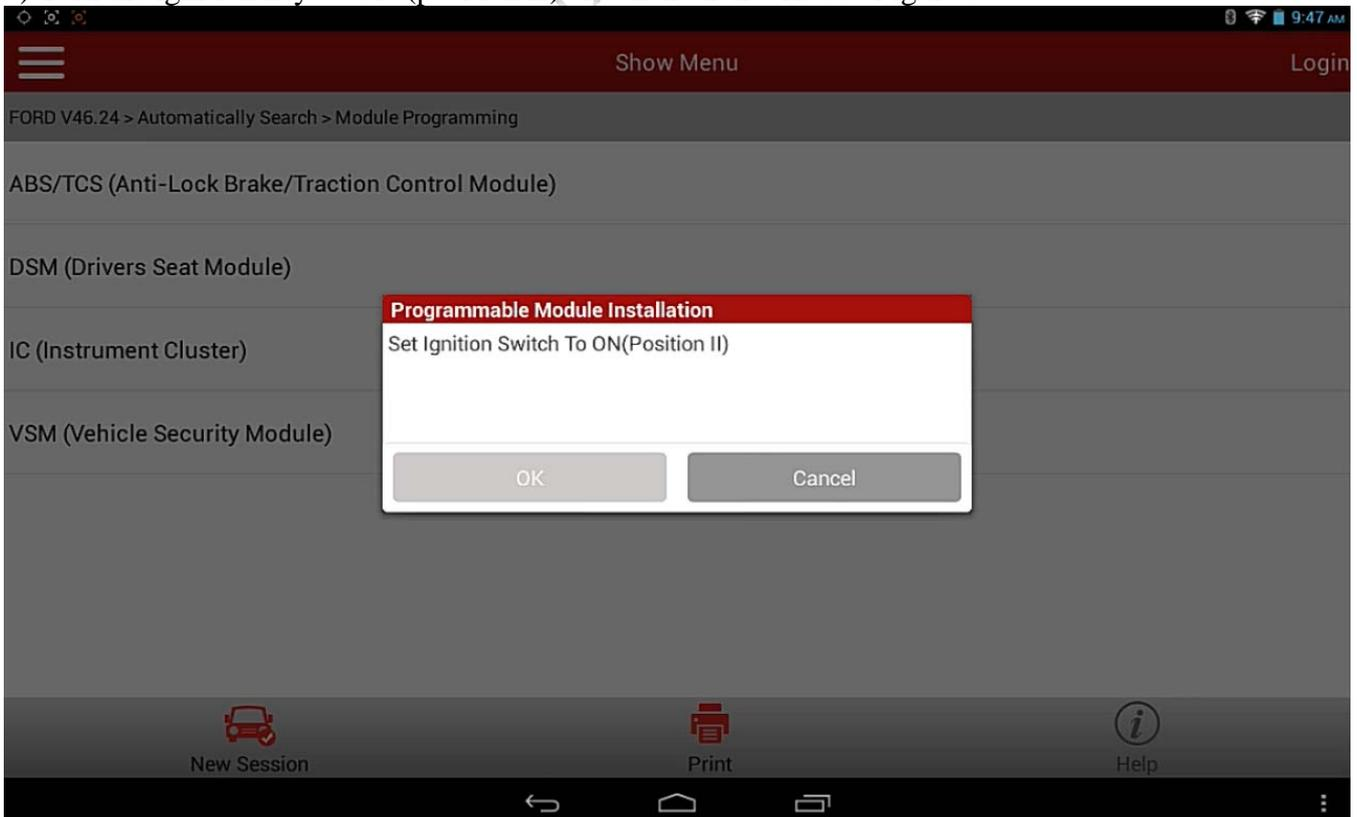

Figure 5
- 9).Turn the ignition key to ON (position II) and then click OK. See Figure 5.